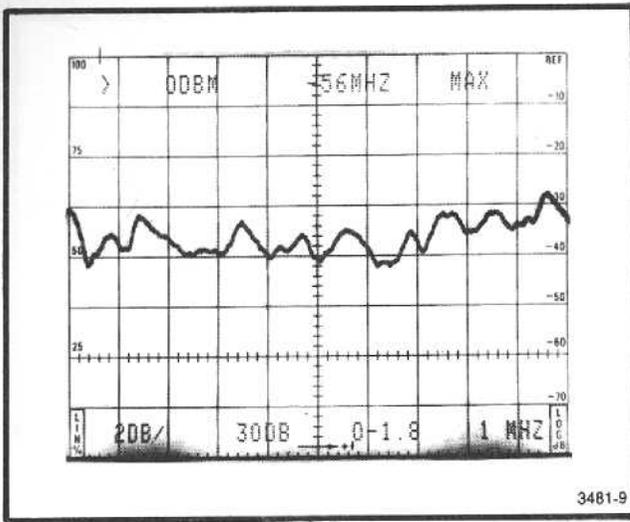

Fig. 3-7. Typical display showing frequency response from a sweeping signal source.
h. Check the frequency response as the sweep generator sweeps across the 0.01 to 2.4 GHz span. Deviation must not exceed ± 1.5 dB up to 1.8 GHz (upper limit of 496/496P). Refer to Fig. 3-7.